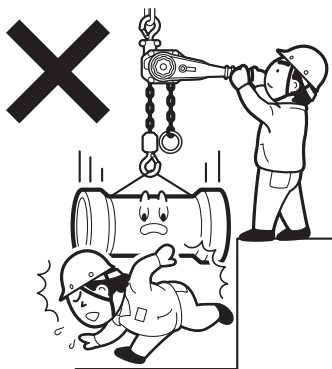

Figure 9
- (1) Individuals unfamiliar with the contents of the instruction manual and caution nameplate must not operate this product.
- (2) Do not use this product to support, lift, or transport people.
- (3) Do not allow anyone to enter the area underneath or within the movement range of suspended loads. Additionally, do not move the load above anyone. (Figure 9)
- (4) Use this product within a temperature range of -40°C to $+60^{\circ}\text{C}$ (with humidity of less than 100%RH).
- (5) Do not use this product in water.
- (6) Never use this equipment in locations constantly subjected to wind, rain, or waves, or in locations susceptible to salt damage, acid, alkali, etc., as this could cause damage to the equipment and load chains.